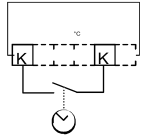

Figure 7 Wiring of night set-back.
- Terminals K and K = Night set-back function (*Figure 7*)